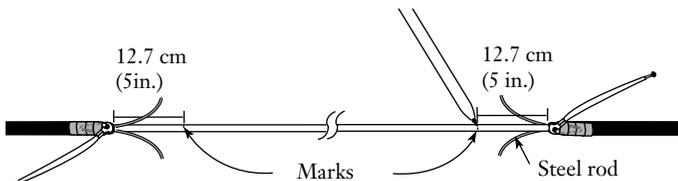

Figure 40
**7.26** Place a mark 12.7 cm (5 in.) from the end of each side of the exposed section of central tube with a permanent marking pen (Figure 40). *This length may vary depending on the hardware being used.*